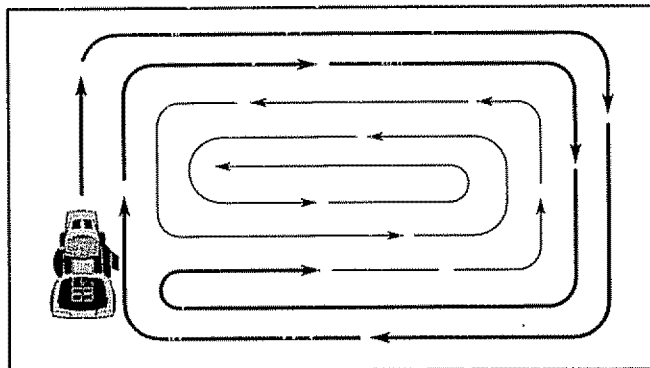

FIG. 12A
- When mowing large areas, start by turning to the right so that clippings will discharge away from shrubs, fences, driveways, etc. After one or two rounds, mow in the opposite direction making left hand turns until finished (See Fig. 12A).